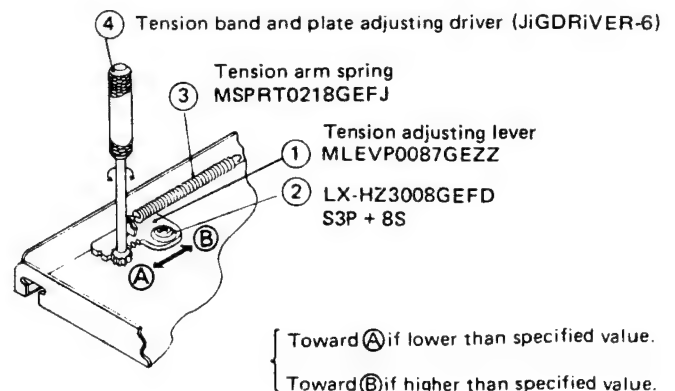

Figure 16.
1. If the reading is below 50g.cm, shift the tension adjusting lever ① in the direction of arrow ➡ A in Fig. 16, and tighten the screw ②.
2. If the reading is over 58g.cm, shift the tension adjusting lever ① in the direction of arrow ➡ B in Fig. 16, and tighten the screw ②.